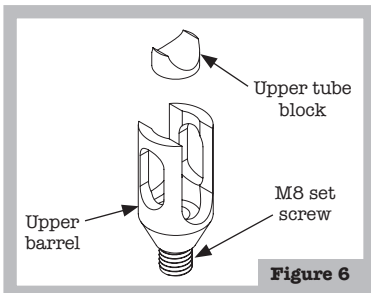

Figure 6
6. Drop the upper tube blocks into the upper barrels with flat side positioned down towards the M8 set screw (Figure 6).